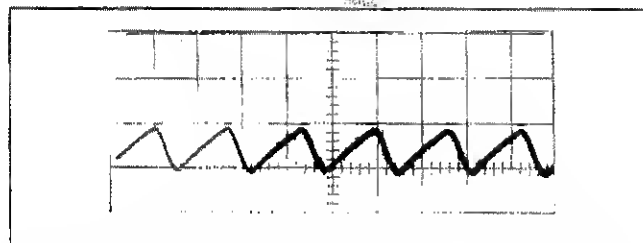

FIGURE 8. Typical Ripple Obtained for the 26 Volt Supply. The scale is 1 volt per division vertical, and 5 milliseconds per division horizontal.
2. Connect the AR101 Model 301 Amplifier input (Figure 8) to a Model 610C Electrometer. Use an adapter or cable with a Keithley Type CS-178 jack on the end for connection to the AR101 input. Operate the Model 610C in Normal mode on the 10×10^9 ohms range. With the + INPUT ZERO CHECK Button fully depressed or in LOCK, the Electrometer meter should indicate zero.
3. Figure 8 shows a typical ripple obtained for the 26 volt supply.